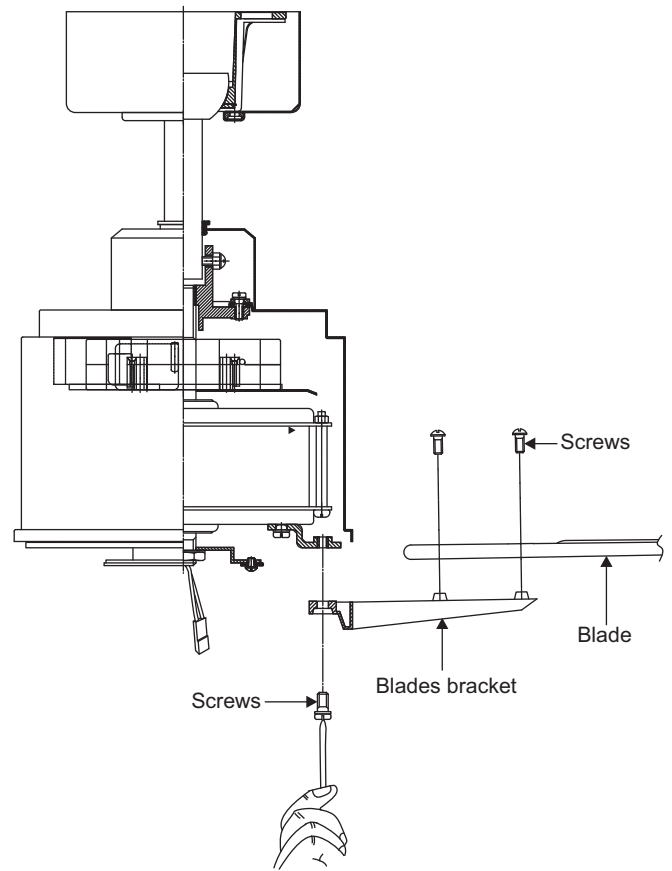

Figure 12
**Step 1.** Attach the blade to the blade bracket using the screws as shown in Figure 12. Start screw into bracket. Repeat for the two remaining screws.
**Step 3.** Fasten blade assembly to motor using the screws supplied. (Fig. 12)